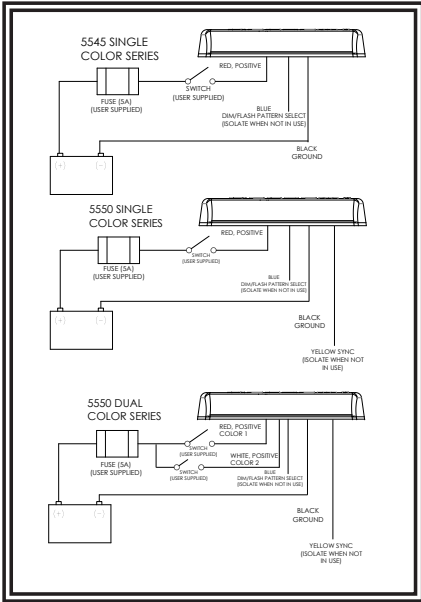

FIGURE 6
- Connect the power wires as shown in the wiring section (see Figure 6).
The wiring for the permanent mount microbar is as shown in Figure 6. All wiring should be a minimum of 18AWG. The positive line must have a 5 amp fuse, as shown. A switch may be used to control the on/off function.